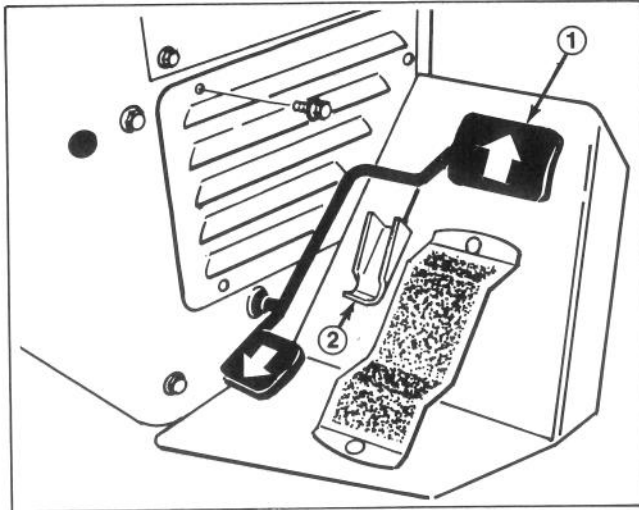

Figure 22
**Traction Pedal** (Fig. 22 & 23) — Traction pedal has two functions: one, to make the machine move forward, the other, to make it move rearward. Using the heel and toe of the right foot, depress top of pedal to move forward and bottom of pedal to move rearward. **For operator comfort, do not rest heel of foot on reverse when operating forward.**
**Traction Pedal Stop** (Fig. 22) — Used in conjunction with traction pedal to maintain a constant mowing speed. Adjust so pedal contacts stop at desired forward speed. The reverse pedal stop (under pedal) is set at the factory to provide 3 M.P.H. maximum speed in the reverse direction.